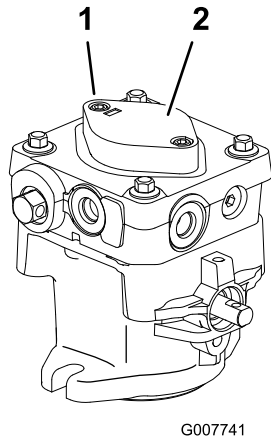

Figure 52
7. To prime the charge pump, loosen two hex socket head capscrews (Figure 52) 1-1/2 turns only. Make sure engine is not running. Lift charge pump housing upward and wait for a steady flow of oil to flow out from under housing. Retighten capscrews. Do this for both pumps.